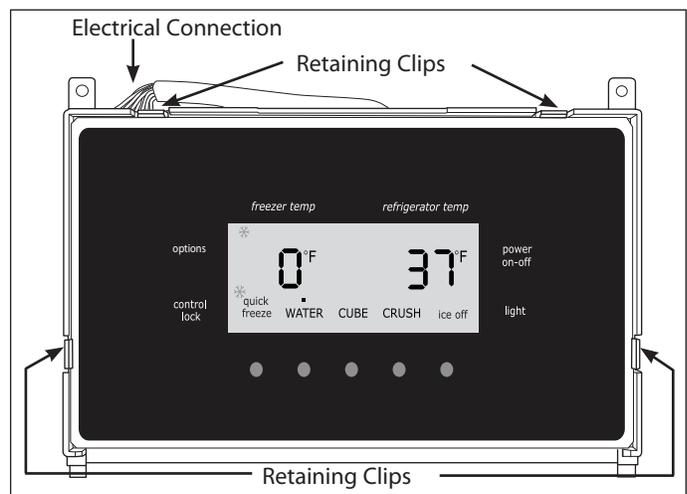

Figure 6-4.
7. Push back the retaining clips while gently pushing the control board out from the housing. (See Figure 6-4)